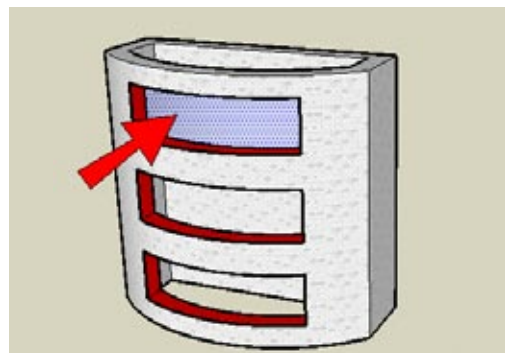

Figure 3-40
8. This top face will become the window glass, but first it should be removed from the building and made part of the window component. So select the face (do not select its edges) at the back of the window (Figure 3-40).